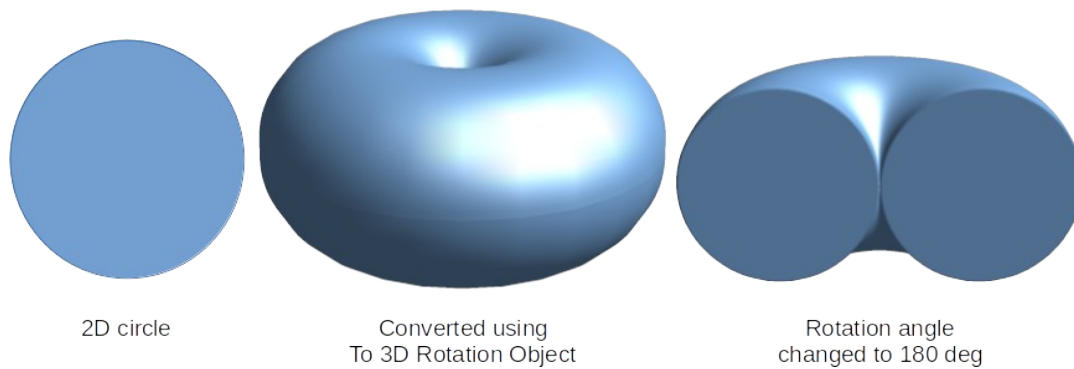

Figure 14: Example of changing rotation angle
- *Rotation angle* – enter the angle in degrees to rotate a 2D object that has been converted to 3D using **To 3D Rotation Object**. Figure 14 shows an example of a 2D circle where the rotation angle is changed to 150 degrees.